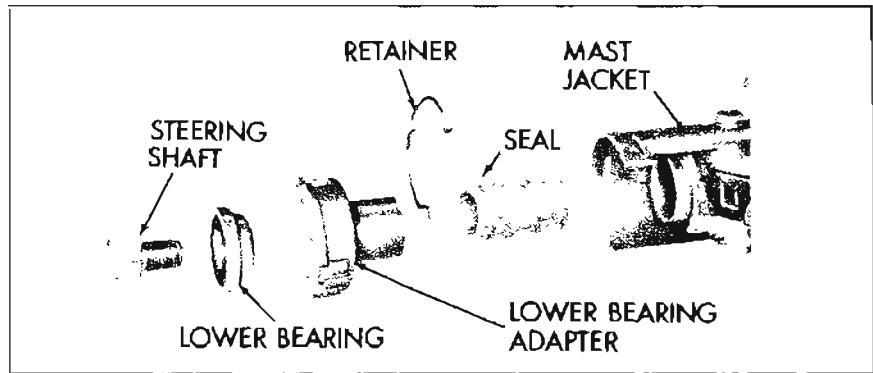

Figure 8-73—Disassembly of Lower Portion of Mast Jacket
11. Remove retainer from lower portion of mast jacket and take off steering shaft, steering shaft lower bearing, lower bearing adapter, and steering shaft felt seal. See Figure 8-73.